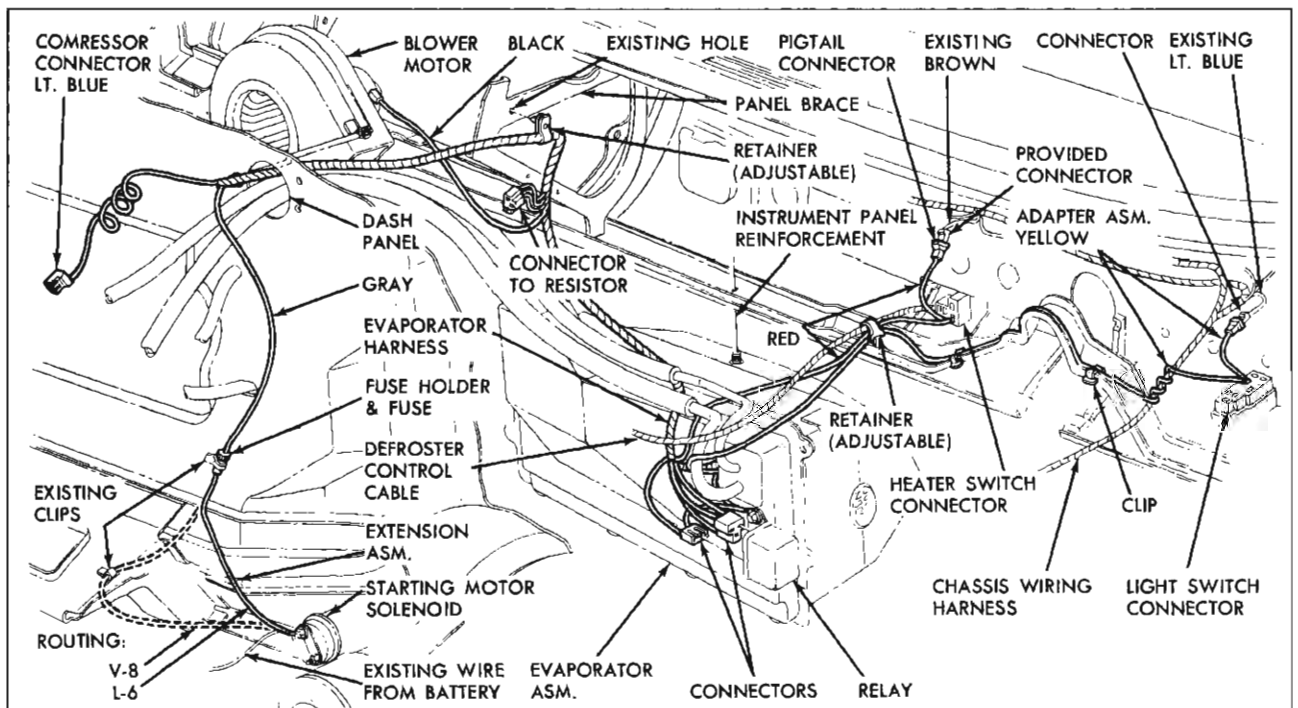

Fig. 9—Underdash Wiring—Custom System
6. Disconnect wiring connectors (see Figure 9) as necessary and remove the evaporator unit from the vehicle. Remove the duct-to-case screw.